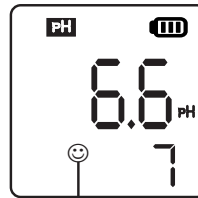

Figure 1
5. Dip the probe in pH 7.00 buffer solution, stir gently, and allow it to stand still in the buffer solution until a stable reading is reached. When measurement stability icon (☺) appears and remains on the screen (see Fig 1); then short press CAL/↔ key to complete the one-point calibration. The tester returns to measurement mode and indication icon "M" will appear at the bottom left of the screen, indicating the middle point of calibration has been completed.